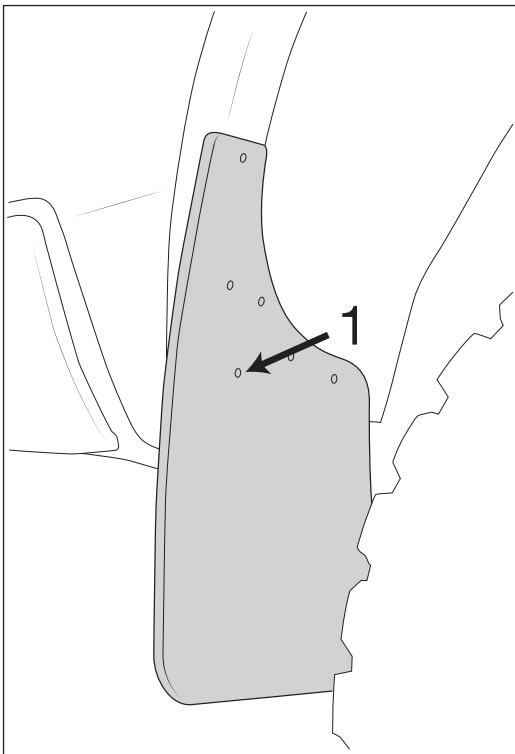

Figure 1
3. Drill a 5 mm hole at location 1 (Fig. 1).